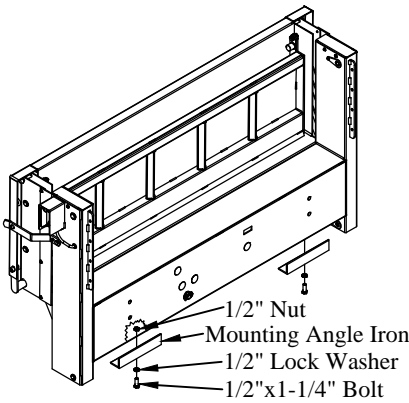

Figure 18: Mounting angle iron location.
- 1. Install** the two (2) mounting angle irons to the bottom of the liftgate (Figure 18).